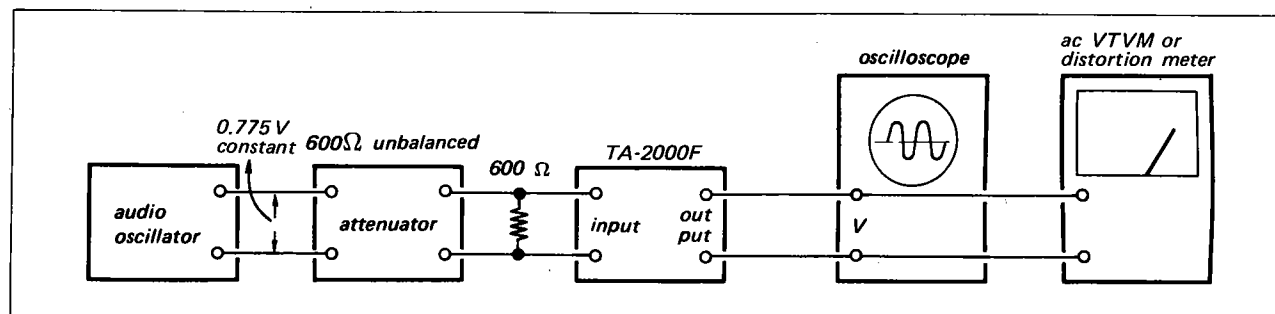

Fig. 3-4. Level check test setup
- With the equipment connected as shown in Fig. 3-4, feed a 1 kHz signal to the input jack. Adjust the attenuator to obtain a 1 volt reading on the ac VTVM. Note that the audio oscillator's output should always be kept at 0.775 volts (0 dB).
1. With the equipment connected as shown in Fig. 3-4, feed a 1 kHz to the TUNER input jack. Adjust the attenuator to obtain a 1 volt reading on the ac VTVM.
1. With the equipment connected as shown in Fig. 3-4, feed in the signal specified in Table 3-3 and then adjust the VOLUME control to obtain a 1 volt (r.m.s.) output.
1. With the equipment connected as shown in Fig. 3-4, feed a 1 kHz signal to the input jack. Vary the attenuator to obtain a 1 volt reading on the ac VTVM.
1. With the equipment connected as shown in Fig. 3-4, feed a 1 kHz signal to the TUNER input jack. Vary the attenuator to obtain a 1 volt reading on the ac VTVM.